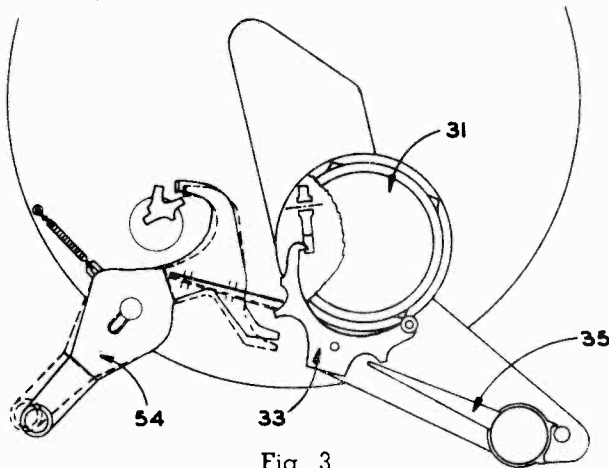

Fig. 3
When the control knob is moved to the extreme REJECT position, the hair spring of the Reject Trip Lever Arm (54) actuates the Velocity Trip and Arm Assembly, putting the change mechanism in cycle. See Fig. 3.